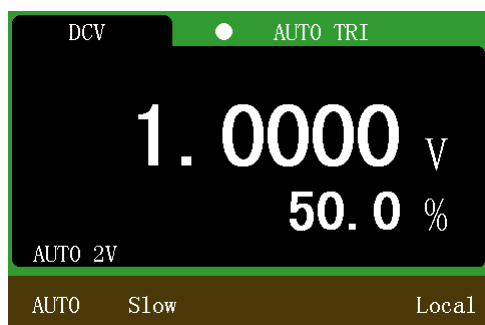

Figure 4-1 Measurement interface
1. Press  to select the DC voltage measurement function. The measurement interface is shown in Figure 4-1.